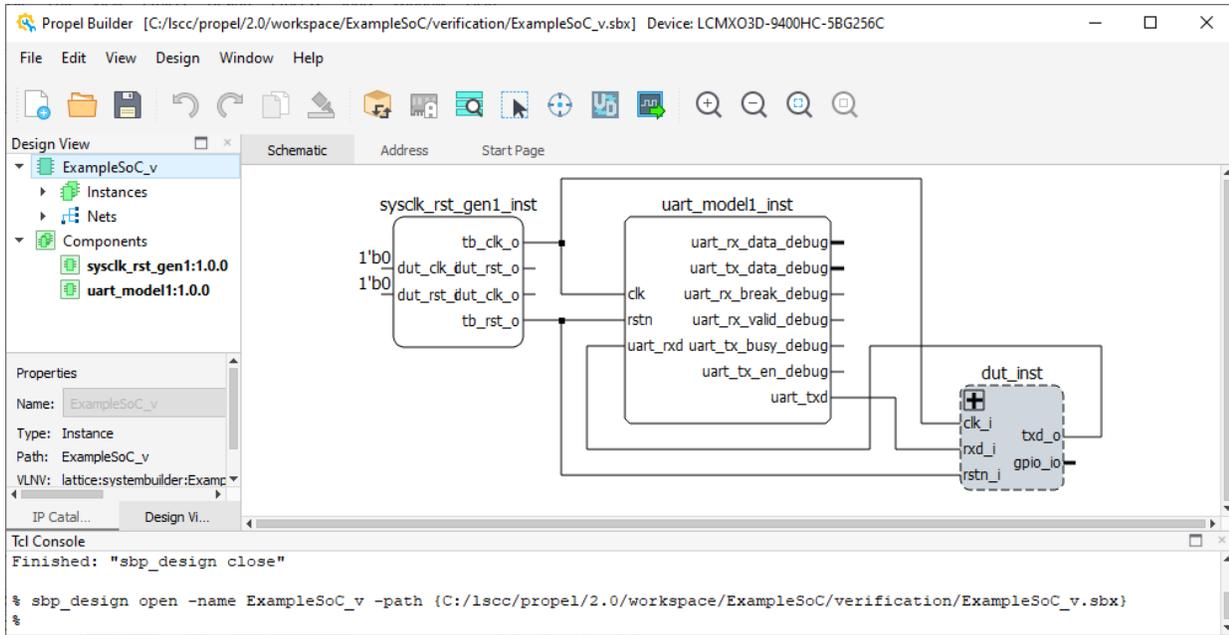

Figure 3.30. SoC Verification Project
2. Click the **Switch** icon  on the toolbar to switch between SoC design and SoC verification project (Figure 3.30).
3. After the SoC design is switched to an SoC verification project, click the **Generate** icon  to generate the simulation environment for OEM ModelSim. Click the **Launch Simulation** icon  (Figure 3.30).